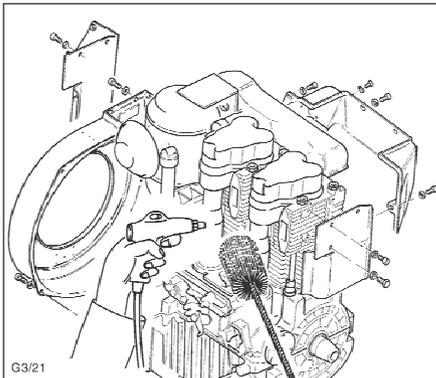

Fig.21
- Measure valve clearance with 0.10 mm feeler gauge “5”(fig. 21, chap. 3.1.).
- If adjustment is necessary, slacken off hex nut “6”, turn adjusting screw “7”and retighten nut “6”. It should then be possible to pull feeler gauge “5”through with just perceptible resistance to movement (fig. 21).